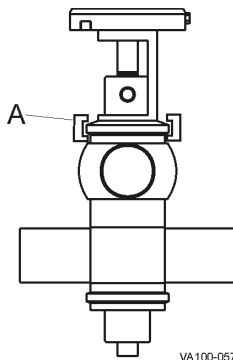

Figure 11 - Location of Adapter Clamp
5. Remove the clamp between the yoke and the adapter (Figure 11, item A).